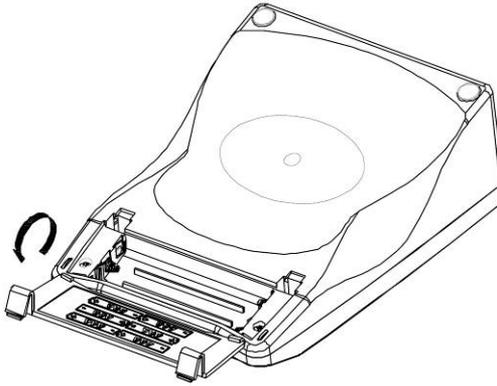

Figure 1
1. Use two hands to flip the two buckles and battery cover to expose the battery compartment. (Figure 1)